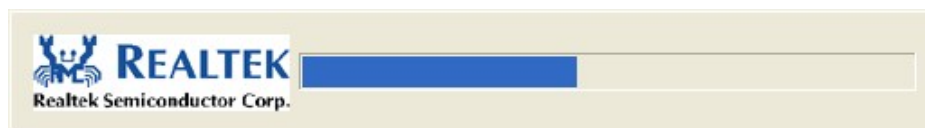

Figure 6-19: Audio Driver Installation
Step 7: The audio driver installation begins. See **Figure 6-19**.